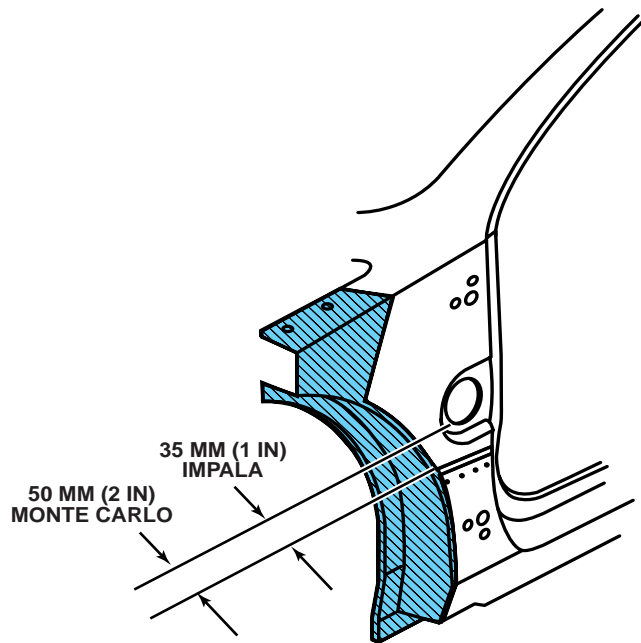

Fig. 2-17 — Remove Outer Hinge Pillar
**IMPORTANT:** Sectioning of the inner reinforcement panel can only take place with outer door frame replacement or sectioning procedures. Sectioning the outer door frame at the front hinge pillar requires a 25 mm (1 in) offset from the inner reinforcement sectioning joint. The inner reinforcement can serve as a backing plate for outer panel sectioning (Figs. 2-17).